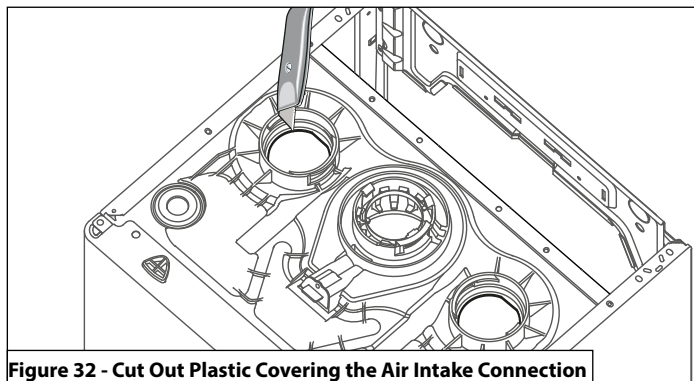

Figure 32 - Cut Out Plastic Covering the Air Intake Connection
Follow the steps below to install air intake pipe into the boiler air intake connection. See Figure 32 for additional details.
Select an air intake connection (left or right of the exhaust vent collar). See Figure 32.
- Using a utility knife, cut out the plastic covering the air intake connection from the side chosen. **NOTE: DO NOT CUT OUT BOTH SIDES!** See Figure 32.